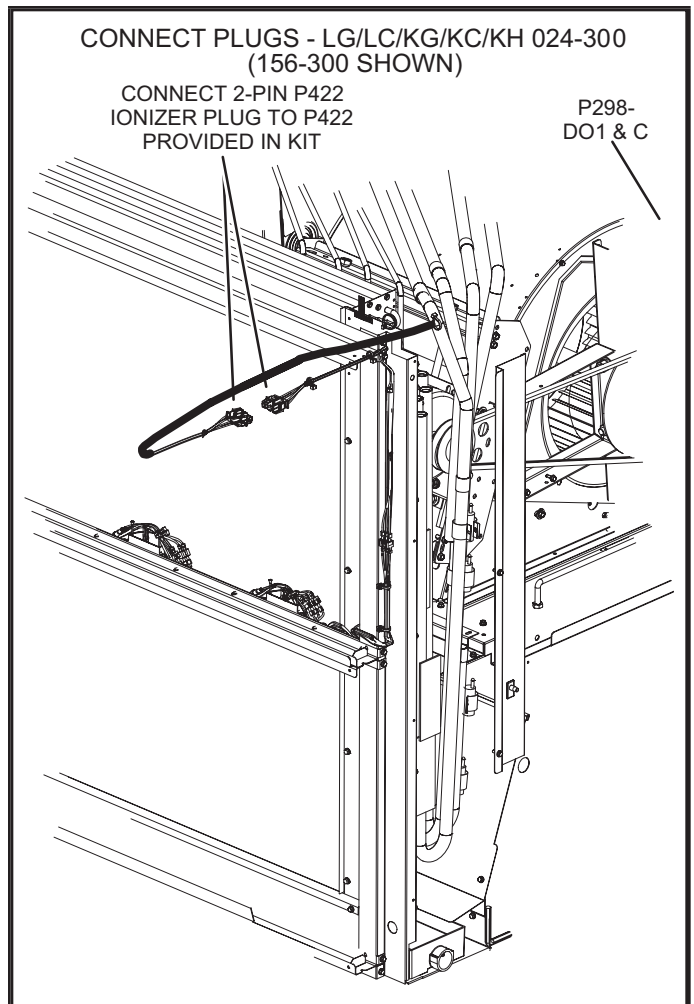

FIGURE 13
- 4 - Connect the 2-pin P422 plug (routed to the filter or blower section) to the ionizer P422. See FIGURE 13.
- 4 - Connect the 2-pin P422 plug (routed to the filter or blower section) to the ionizer P422 plug. See FIGURE 13. On 024-150 units, bundle excess wiring in blower section.